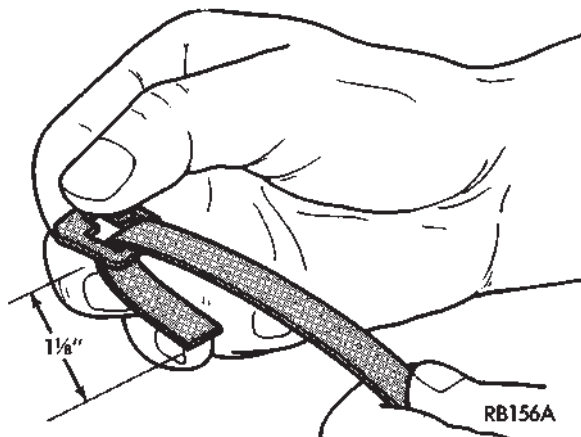

Fig. 3 Install Buckle on Strap
- (5) Pass the strap through the buckle and fold it back about 29 mm (1-1/8 inches) on the inside of the buckle (Fig. 3).